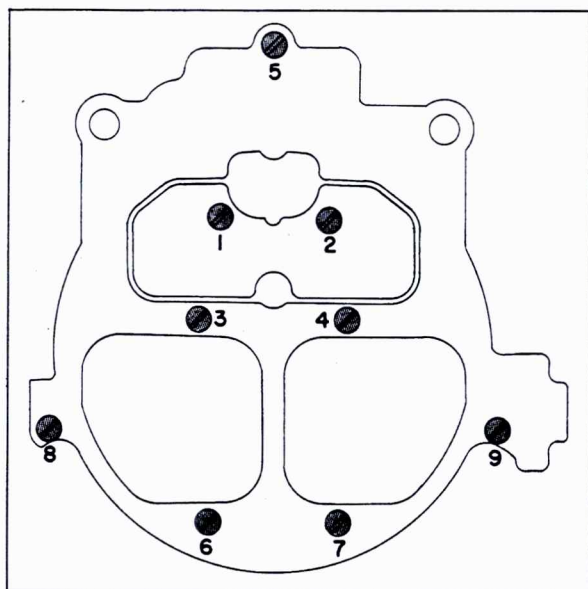

Fig. 6-75 Air Horn Screws Tightening Sequence
2. Install two long air horn screws, five short screws and two countersunk screws in primary venturi area. Install air valve lockout guard under screw #4 in Fig. 6-75. Secure with self-tapping screw. To prevent binding of choke valve or air valve due to distortion of air horn, all screws must be tightened evenly, using the sequence shown in Fig. 6-75.